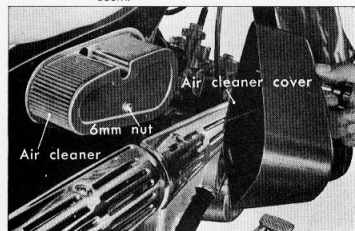

Figure 4-49. Removing air cleaner (S50, S65)
- (2) The air cleaner on models S50 and S65 can be removed by removing the air cleaner cover on the right-hand side. (Fig. 4-49)